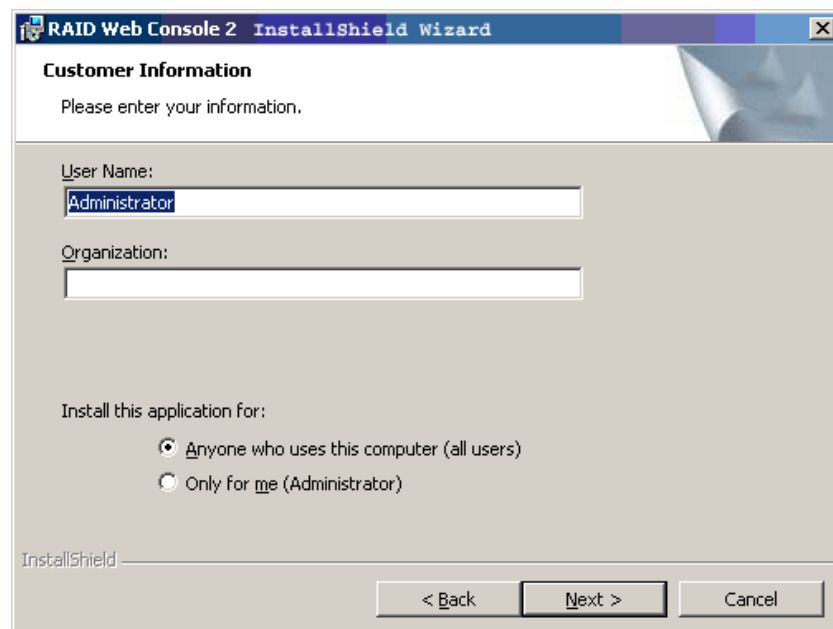

Figure 31. Intel® RAID Web Console 2 – Customer Information Screen
3. When the next screen is displayed, read and accept the user license and click **Next**. The Customer Information screen is displayed, as shown in Figure 31.